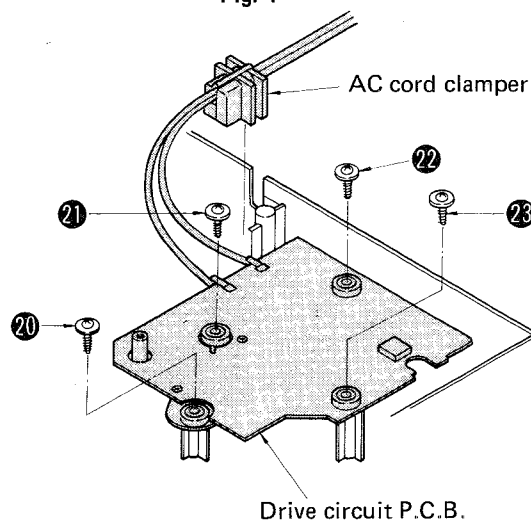

Fig. 3
2. Remove the AC cord clammer and disengage the set screws ⑳ to ㉓ of the drive circuit P. C. B, then the P. C. B. can be detached. (See Fig. 3)